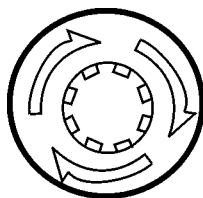

**Figure 69. Ignition Key Switch (STOP position)**
4. Place the ignition key (Figure 69) in the "STOP" position.